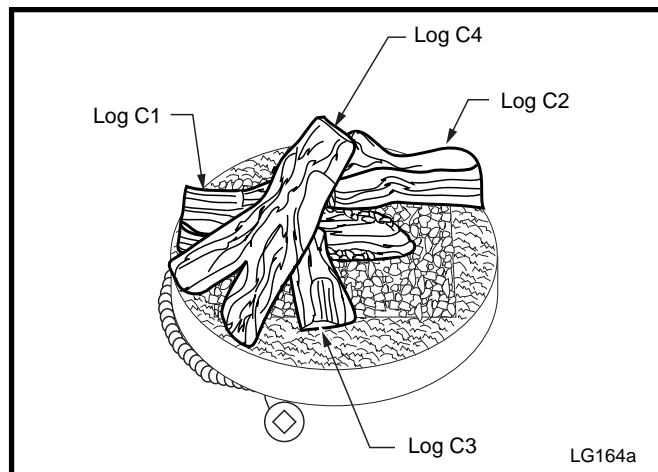

Fig. 13 Logs C3 & C4 placement.
6. Place logs C3 and C4 with flex line on your left. C3 fits just under angle of log C2. (Fig. 13)